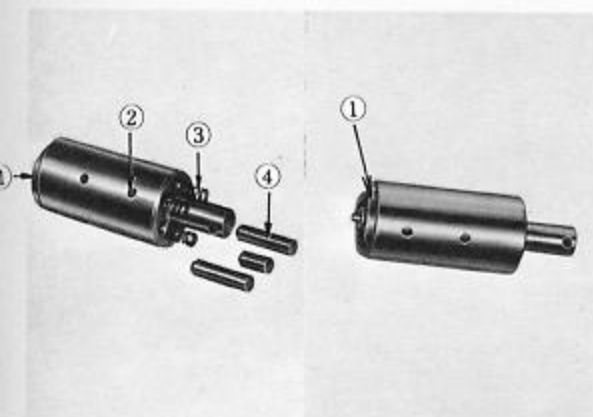

Fig. 6-5 Oil pump valve & plunger
Six(6) openings are arranged vertically inside of the valve. Three(3) of them are through-hole while a spring ③ and plunger ④ are inserted in the remaining three as shown in Fig. 6-5.